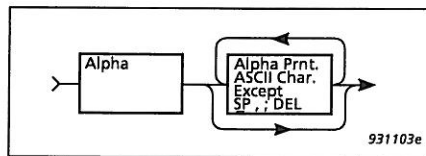

Fig.11.3 General syntax for character data fields
Character data must begin with an alphabetic character, either upper or lower case. This initial alphabetic character can be followed by any printable ASCII character (from 32 through 127 (decimal)), with the exception of a space (SP), a comma (,), a semi-colon (;), a colon (:), or the delete character (DEL). Fig.11.3 shows the valid form of entry for character data.